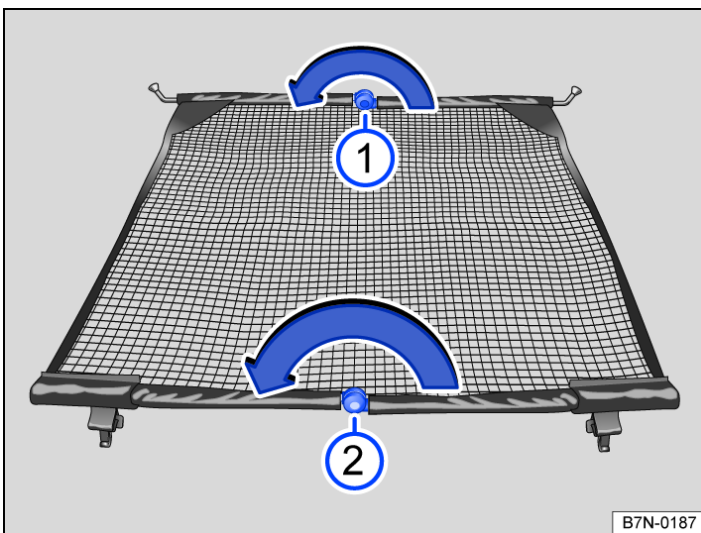

Fig. 2 Folding in the net partition.
— Press the release button and fold in the crossbar in the direction of the arrow while keeping the release button pressed → Fig. 2 ①.
- Repeat this procedure with the other release button → Fig. 2 ②.